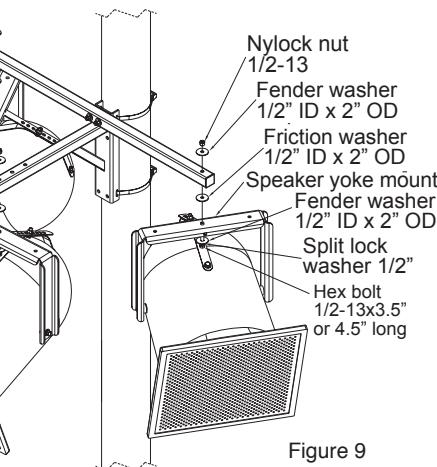

Figure 9
**Step 14:** Install the selected speaker mounts on the pole mount's extension arm and at the ends of the dual adapter using the hex bolts, flat washer, friction washer, split washer and nyloc nut provided with the pole mount and the dual adapter (Figure 9).